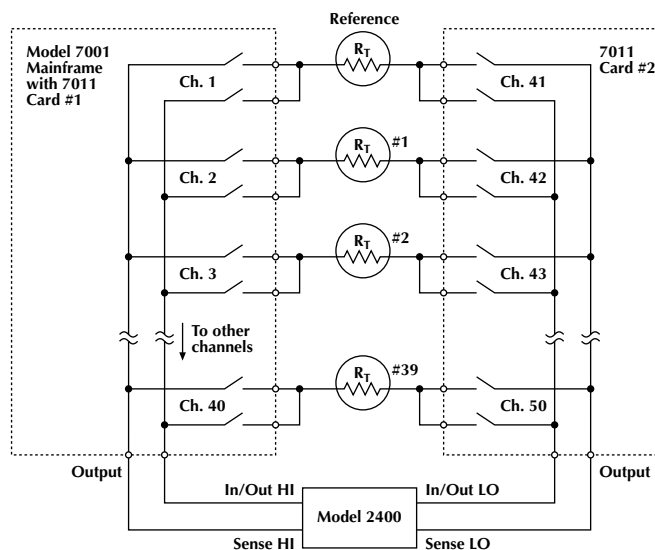

Figure 3. Switching multiple thermistors to Model 2400 using 4-wire method
**Figure 3** shows a scanner system using a four-wire technique. For scanning thermistors with lower resistances ( $<100\Omega$ ), a four-wire technique is used to prevent the lead resistance from being added into the measurement. Note that two 2-pole relays are used to connect each thermistor to the instrument.